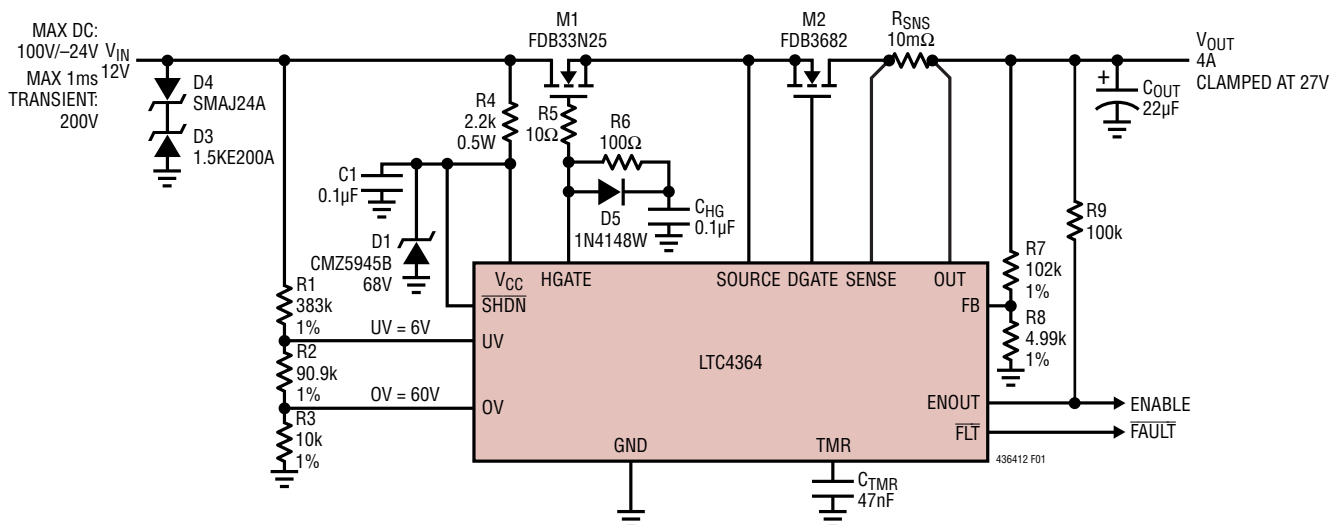
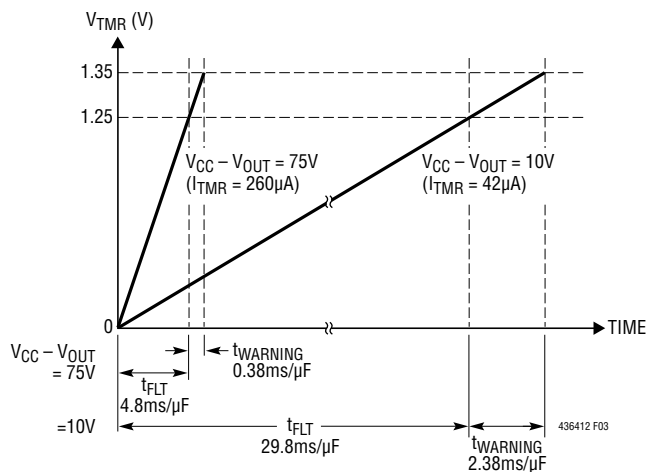

Figure 1. 4A, 12V Overvoltage Output Regulator with Reverse Current Protection
**Figure 2. External UV and OV Configuration Blocks Start-Up Into an Overvoltage Condition**
**$\Delta V_{HGATE}$  vs  $V_{IN}$  in Figure 1**
**$\Delta V_{DGATE}$  vs  $V_{IN}$  in Figure 1**
The LTC4364 drives an N-channel MOSFET (M1) at the HGATE pin to limit the voltage and current to the load circuitry during supply transients or overcurrent events. The selection of M1 is critical for this application. It must stay on and provide a low impedance path from the input supply to the load during normal operation and then dissipate power during overvoltage or overcurrent conditions. The LTC4364 also drives a second N-channel MOSFET (M2) at the DGATE pin as an ideal diode to protect the load from damage during reverse polarity input conditions, and to block reverse current flow in the event the input collapses. A typical application circuit using the LTC4364 to regulate the output at 27V during input surges with reverse input protection is shown in Figure 1.
Input overvoltage is detected with the OV pin and an external resistive divider connected to the input (Figure 1). At power-up, if the OV pin voltage is higher than its 1.25V threshold before the 100 $\mu\text{s}$  internal power-on-reset expires, or before the input undervoltage condition is cleared at the UV pin, the HGATE pin will be held low until the OV pin voltage drops below its threshold. To prevent start-up in the event the board is hot swapped into an overvoltage supply, separate resistive dividers with filtering capacitors can be used for the OV and UV pins (Figure 2). The RC constants should be skewed so that  $\tau_{\text{UV}}/\tau_{\text{OV}} > 50$ . In Figure 2, if the board is plugged into a supply that is higher than 60V, the LTC4364 will not turn on the pass devices until the supply voltage drops below 60V.
The LTC4364 detects input undervoltage conditions such as low battery using the UV pin. When the voltage at the UV pin is below its 1.25V threshold, the HGATE pin pulls low to keep the pass device off. Once the UV pin voltage rises above the UV threshold plus the UV hysteresis (50mV typical), the HGATE pin is allowed to pull up without going through a timer cycle. In Figure 1 and Figure 2, the input UV threshold is set by the resistive dividers to 6V. An undervoltage condition does not produce an output at the  $\overline{\text{FLT}}$  pin.
The LTC4364 drives two N-channel MOSFETs, M1 and M2, as the pass devices to conduct the load current (Figure 1). The important features are on-resistance,  $R_{\text{DS(ON)}}$ , the maximum drain-source voltage,  $V_{(\text{BR})\text{DSS}}$ , the threshold voltage, and the safe operating area, SOA (for M1).
The added gate capacitor slows down the turn-off time during fault conditions and allows higher peak currents to build up during an output short event. If this is a concern, an extra resistor,  $R_6$ , in series with  $C_{HG}$  can restore the turn-off time. A diode,  $D_5$ , should be placed across  $R_6$  with the cathode connected to  $C_{HG}$  as shown in Figure 1. In a fast transient input step,  $D_5$  provides a bypass path to  $C_{HG}$  for the benefit of holding HGATE low and preventing self enhancement.
The LTC4364 is tested to operate to 80V and guaranteed to be safe from damage between 100V and  $-40V$ . Voltage transients above 100V or below  $-40V$  may cause permanent damage. During a short-circuit condition, the large change in current flowing through power supply traces coupled with parasitic inductances from associated wiring can cause destructive voltage transients in both positive and negative directions at the  $V_{CC}$ , SOURCE, and OUT pins. To reduce the voltage transients, minimize the power trace parasitic inductance by using short, wide traces. A small RC filter (R4 and C1 in Figure 1) at the  $V_{CC}$  pin filters high voltage spikes of short pulse width.
Another way to limit supply transients above 100V at the  $V_{CC}$  pin is to use a Zener diode and a resistor, D1 and R4, as shown in Figure 1. D1 clamps voltage spikes at the  $V_{CC}$  pin while R4 limits the current through D1 to a safe level during the surge. In the negative direction, D1 along with R4 clamps the  $V_{CC}$  pin near GND. The inclusion of R4 in series with the  $V_{CC}$  pin increases the minimum required supply voltage due to the extra voltage drop across the resistor, which is determined by the supply current of the LTC4364 and the leakage current of D1. 2.2k adds about 1V to the minimum operating voltage.
For sustained, elevated supply voltages, the power dissipation of R4 in Figure 1 becomes unacceptable. This can be resolved by using an external depletion mode N-channel MOSFET to replace R4 (M1 in Figure 7a) or using an external NPN transistor (Q1 in Figure 7b) as a buffer. To protect Q1 against supply reversal, block the collector of Q1 with a series diode or tie it to the cathode of D3 and D4 in Figure 1.
Transient suppressor D3 in Figure 1 clamps the input voltage to 200V for voltage transients higher than 200V, to prevent breakdown of M1. It also blocks forward conduction in D4. D4 limits the SOURCE pin voltage to 24V below GND when the input goes negative.  $C_{OUT}$  helps absorb the inductive energy at the output upon a sudden input short, protecting the OUT and SENSE pins.